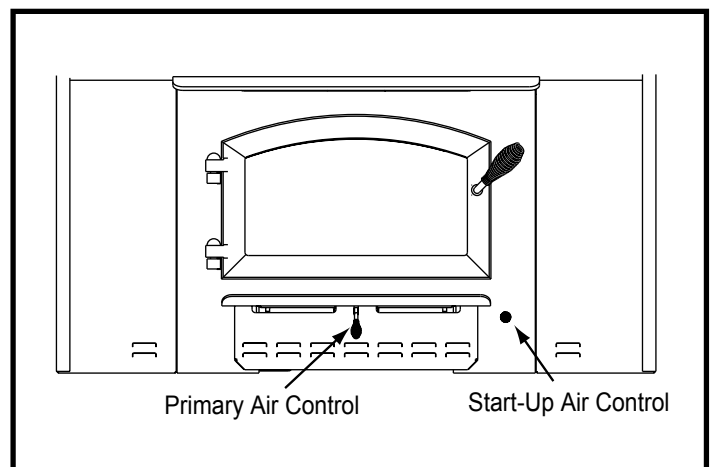

Figure 18.1
3. Open Start-Up Air Control (right control) and Primary Air Control (center control under ashlip) fully. **Figure 18.1 on page 18.**
The primary air enters at the upper front of the firebox near the top of the glass door. This preheated air supplies the necessary fresh oxygen to mix with the unburned gases, helping to create secondary, tertiary and quaternary combustion. This air is regulated by the Primary Air Control. For more primary air (more heat), push rod in. For less primary air (less heat), pull rod out. **Figure 18.1.**